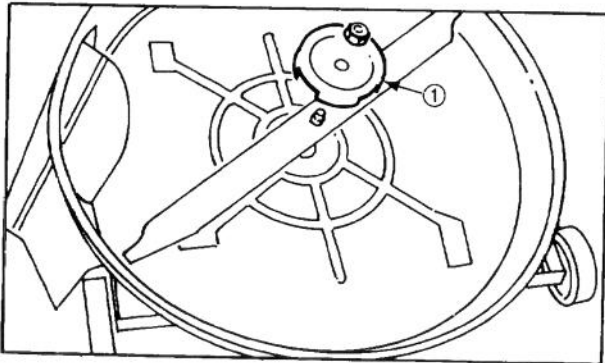

Figure 22
6. Grasp end of blade using a rag or thickly padded glove; then remove lock nut, anti-scalp cup and blade (Fig. 22).
9. In sequence, install blade, anti-scalp cup and lock nut (Fig. 22). Tighten lock nut to 45-60 ft-lb (61-81 N·m).